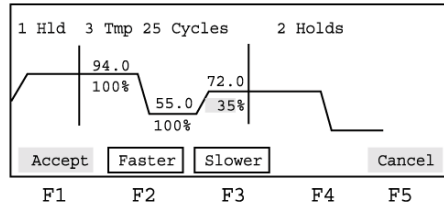

Figure 4-12. Modified up-ramp rate
- Use the numeric keys to enter a value that defines the percentage by which you want to decrease the up-ramp rate for each cycle of the method. You can enter values between 5 and 95, or 100 (Figure 4-12).